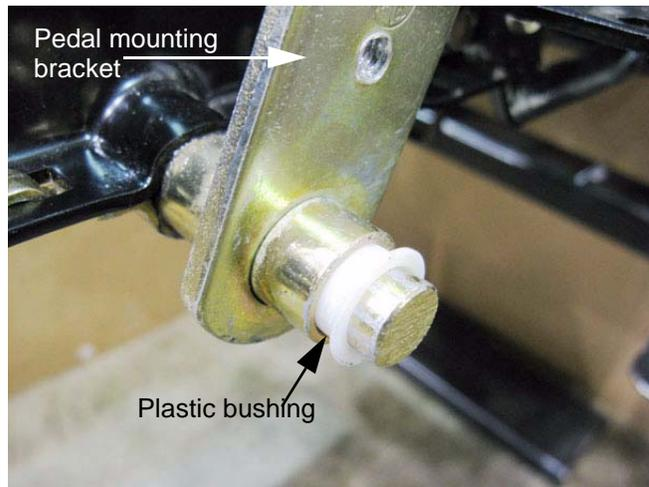

Figure 6.6
- Worn plastic bushings between the drive pedal bracket and the brake cross-shaft. See Figure 6.6.